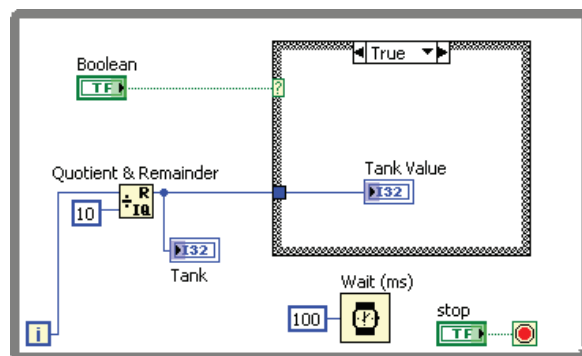

Figure 3-5. Tank Value Modification
3. Add code to cause **Tank Value** to update only when the transparent button is True, as shown in Figure 3-5.